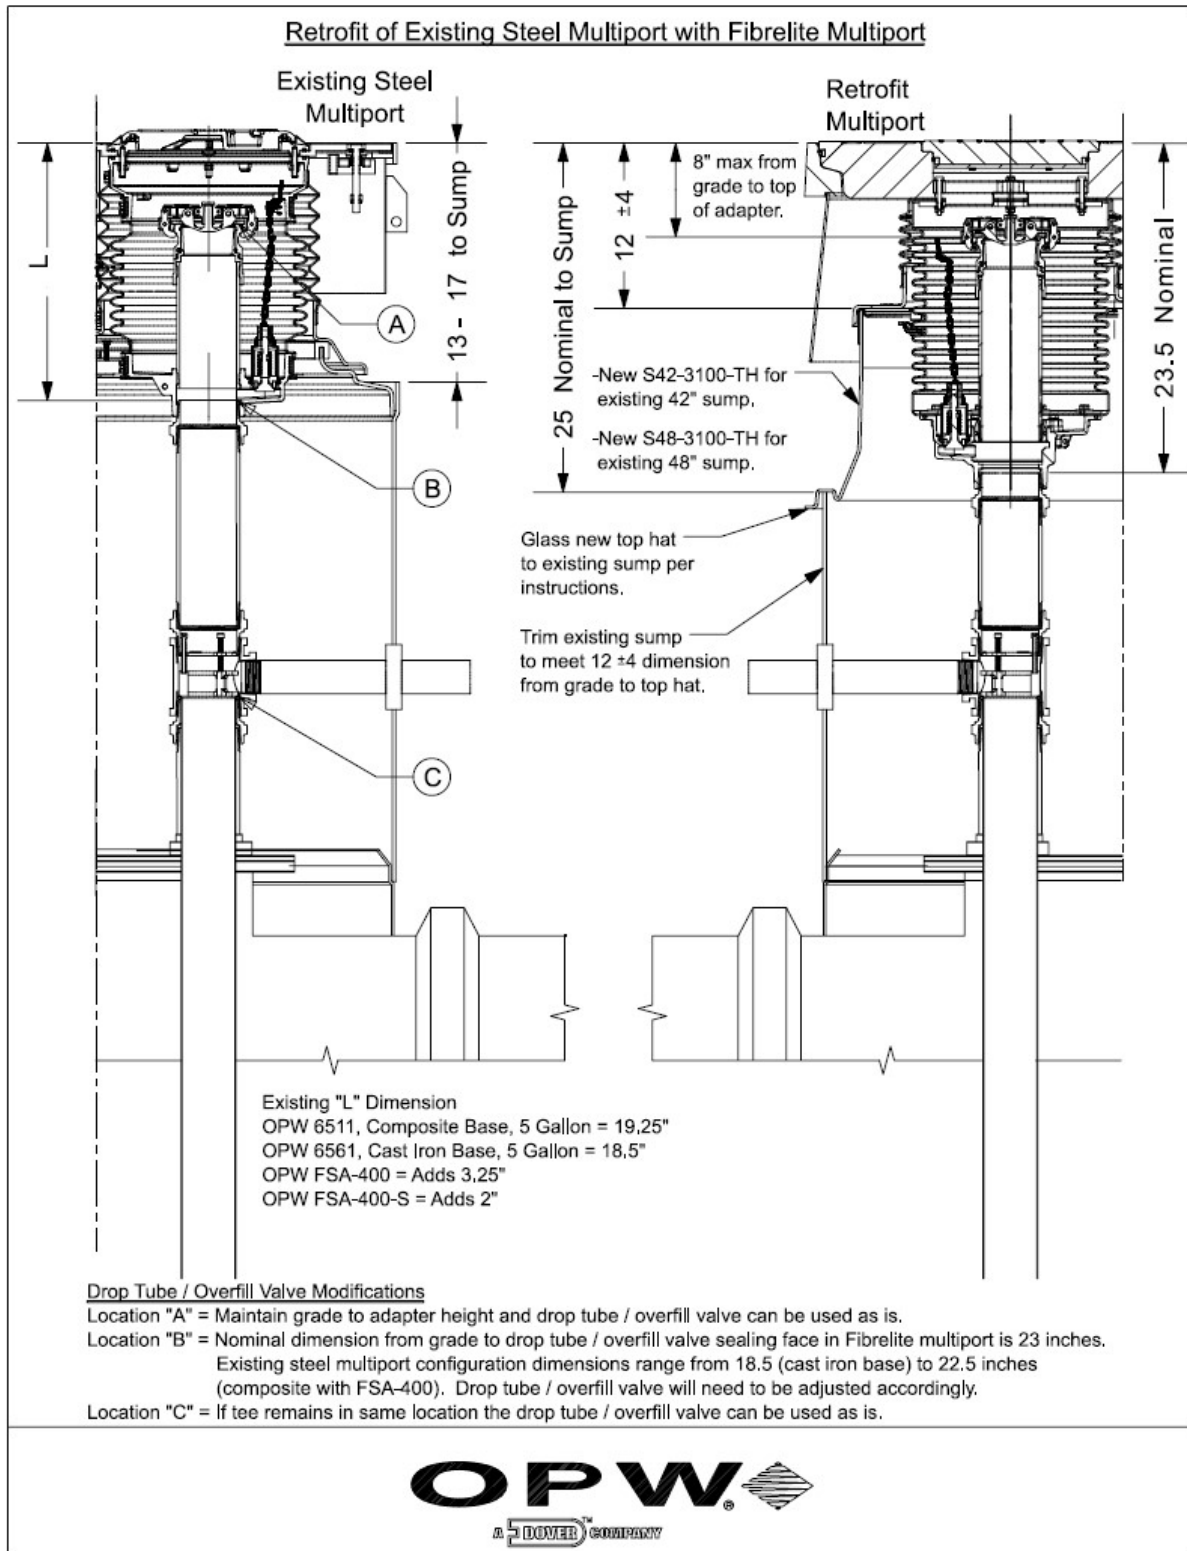

Figure 27
41. Ensure sump / top hat installed under cover can be adapted to meet the dimensions shown in Figure 27.
42. Ensure riser heights can be adjusted to meet dimensional requirements shown in Figure 27.
43. If desired, the existing drop tube / overfill valve can potentially be used with the new installation. Determine mounting location of current drop tube / overfill valve (See Figure 27 for 3 possible options).
46. Install top hat / riser with WS-RING-37 to meet the 12 inch dimension from grade to top hat shown in Figure 27. Follow instructions supplied with top hat or riser. Steps 23 thru 30 may apply.
Note: If drop tube / overfill valve were to be installed in Location C as shown in Figure 27 if the tee remains in same location the drop tube / overfill valve can be used as is.